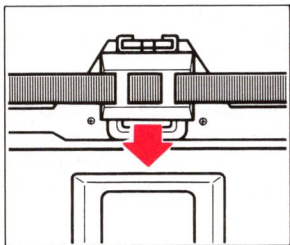

Fig. 36
- ★ Use the Viewfinder Cap attached to the strap to cover the Viewfinder Eyepiece when using the self-timer in modes other than "Manual" to avoid incorrect exposure due to incident-light from the Viewfinder Eyepiece. (Fig. 36)